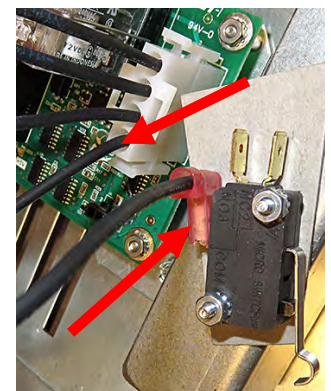

Figure 23
27. Connect pin-4 (bottom) wire to the COM position of the lower right switch (see Figure 23 and wiring diagram on last page).